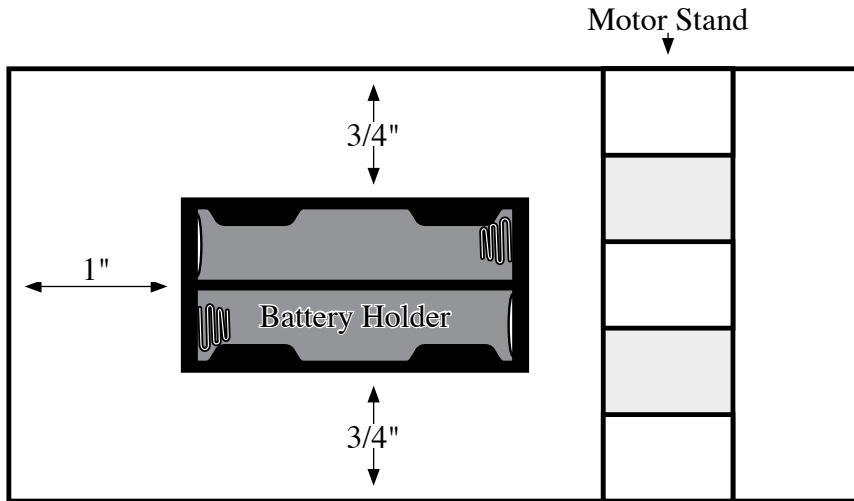

Figure 5
- 1) Place two tape tabs on the bottom of the battery holder. Remove the paper backing from the tabs. Place the battery holder so the wireless end is one inch from the back of the chassis and is centered on it – there should be approximately $3/4$ " on each side of the battery holder (Figure 5).